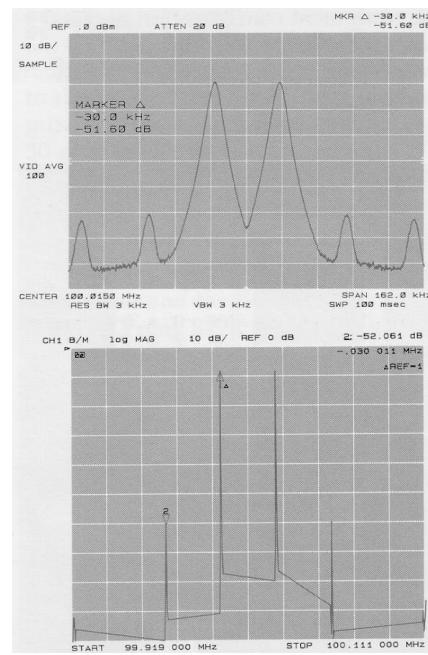

Figure 17. Comparison of third order IMD measurements made on a spectrum analyzer and the Agilent 8753B
10. Figure 17 shows a comparison of two-tone third order IMD measured on a spectrum analyzer and on the 8753B.